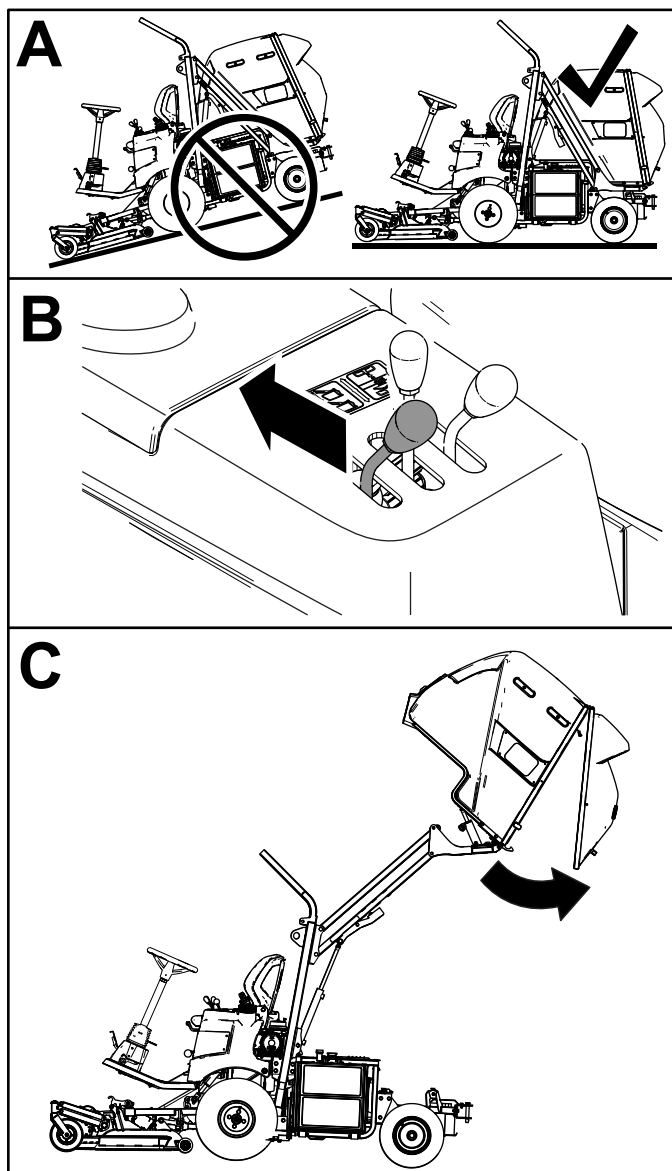

Figure 25
2. Move the hopper dump lever rearward to dump the clippings from the hopper (**Figure 25**).